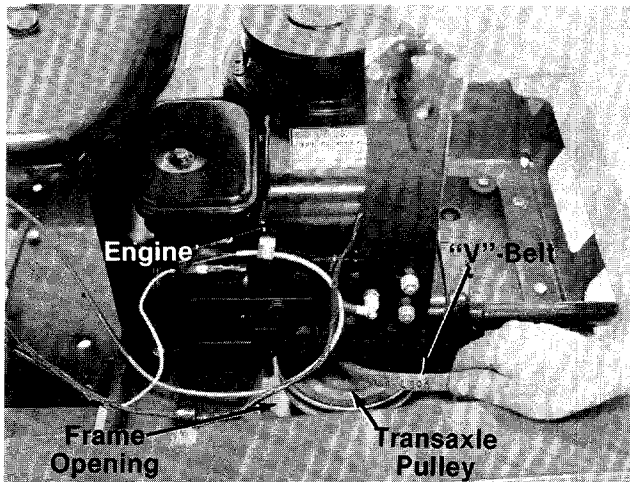

FIGURE 31.
8. Pull the drive belt out through the opening in the frame below the engine pulley and above the transaxle pulley. See figure 31.